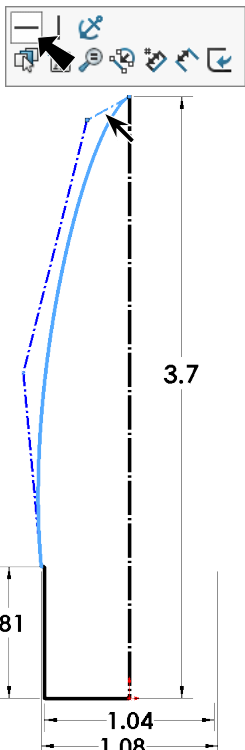
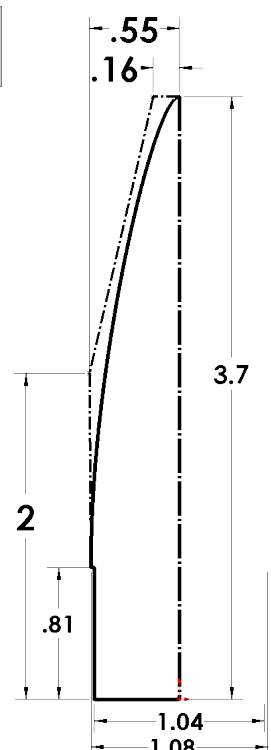

Fig. 6
Fig. 7
Step 12. Click **top control polygon segment** and click **Make Horizontal**  on the context toolbar, **Fig. 6**.
Step 13. Click **Smart Dimension**  (S) on the Sketch toolbar.
Step 14. Add dimensions, **Fig. 7**.